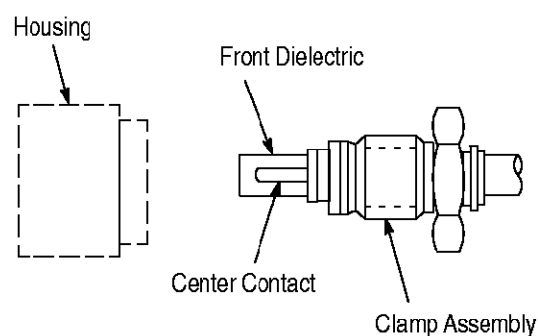

Figure 6
3.4. Secure Inner Sleeve Sub-Assembly to Housing (Figure 6)